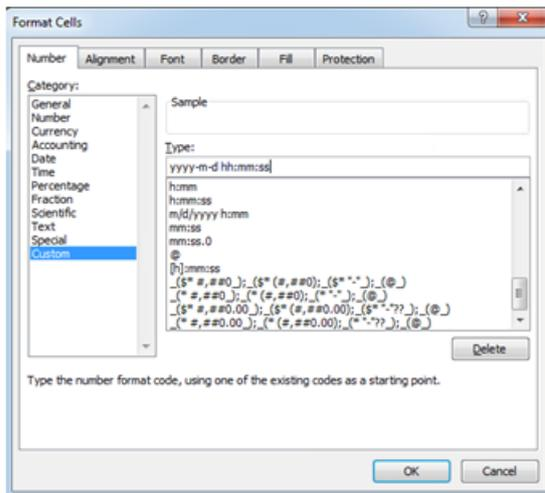

Figure 6-1-5 Custom Time Format
1. You need to modify the format of the TIME field, select the time row and column, right-click to select "Set Cell Format", select "Custom" on the left side of the opened cell format window, and enter yyyy-m-d hh:mm:ss in the red box. As shown in Figure 6-1-5.